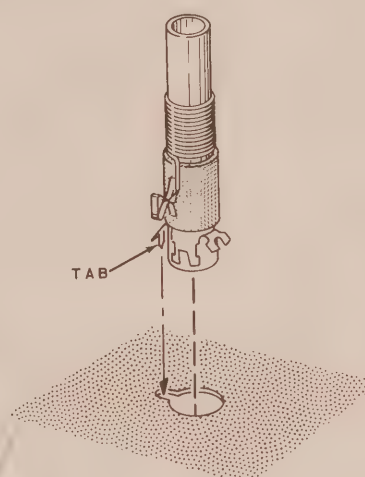

Figure 2
- (✓) Install the RF coil (#40-602) at L1 as shown in Figure 2. Press the coil into the hole until both catches snap to lock the coil to the chassis.